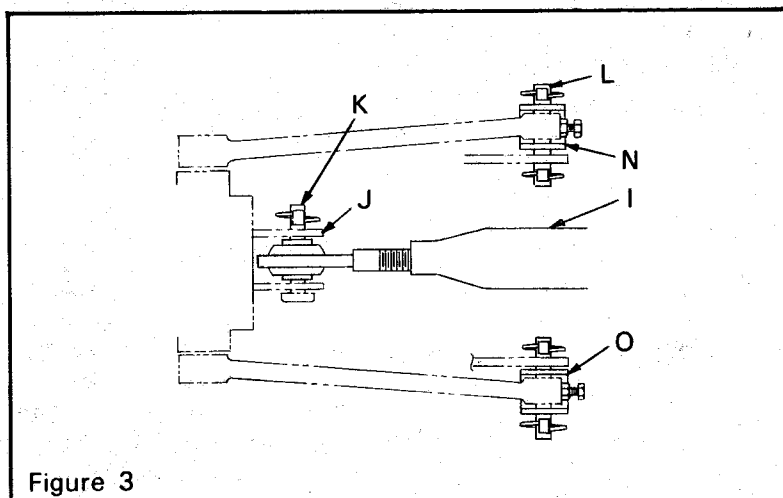

Figure 3
5. Position top link assembly I between support J, Fig. 3, and secure with pin and click pin K.
6. Loosen both lift pins L, Fig. 3, in the lift arms on the tractor and remove. Position both